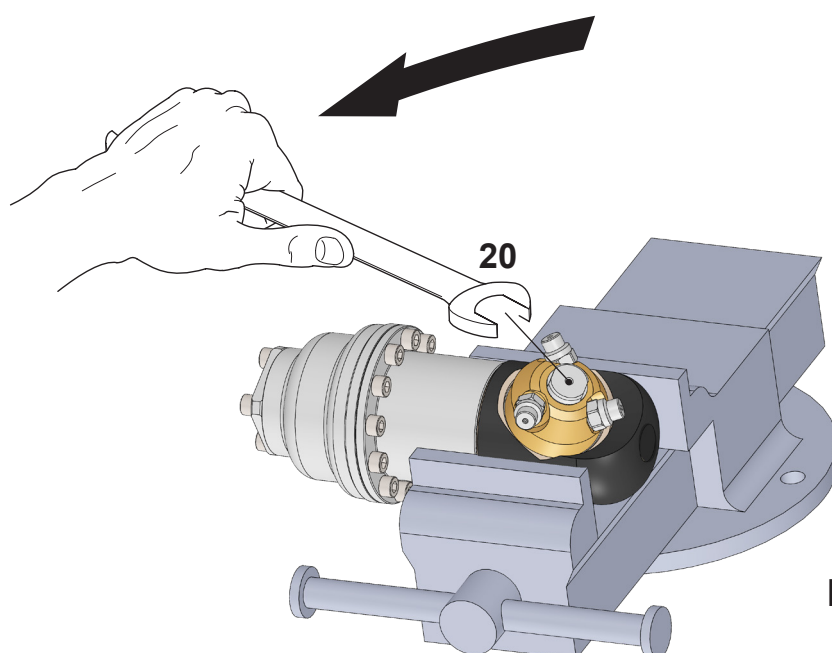

Fig. 9.05
- 9.3.1) Use a 17 mm fixed jaw spanner to unscrew the pin pos.20 (Fig.9.05).